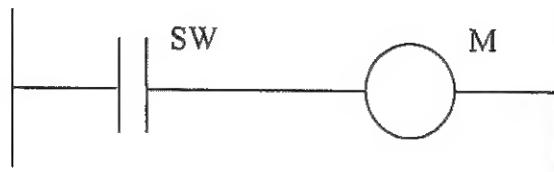

Figure 1-1
(a) An escalator in a shopping complex is designed to have a switch (SW) to control its motor (M) as shown in the PLC ladder diagram in *Figure 1-1*. For each of the following cases, modify the rung of the ladder diagram accordingly. **Consider each case separately as they are not related to each other.**